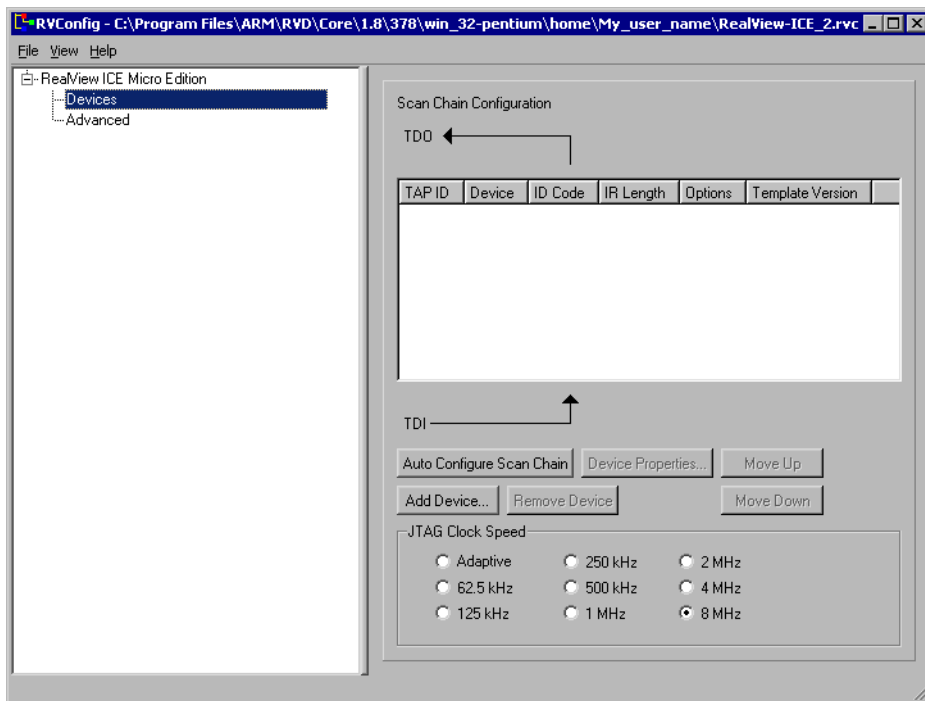

Figure 5-4 Configuring a RealView ICE interface unit
2. Select the option **Configure Device Info...** to display the RVConfig dialog box shown in Figure 5-4.